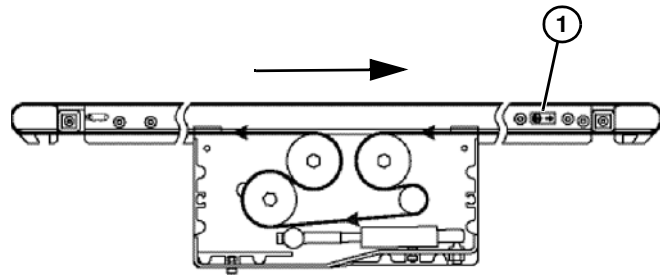

Figure 48
On a center drive conveyors, belt travel direction is identified by an arrow decal on the side of the conveyor (**Figure 48, item 1**) & (**Figure 49, item 1**).